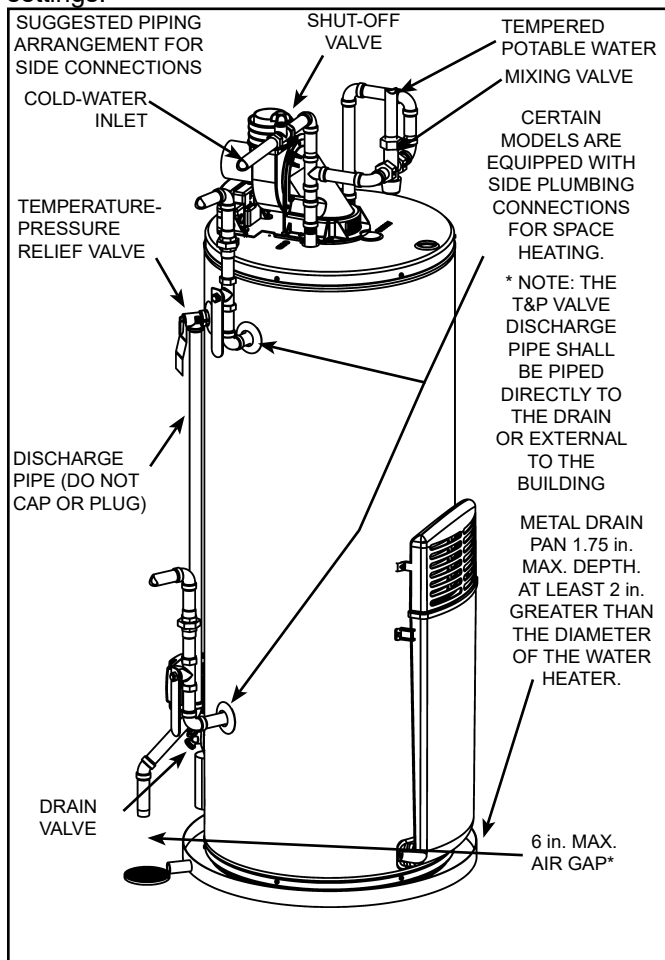
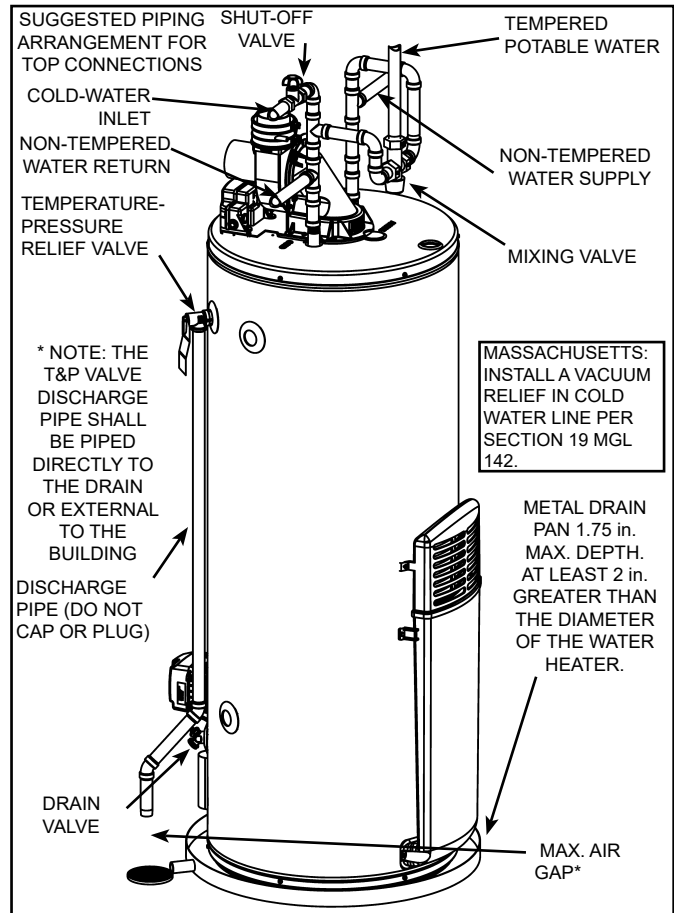

Figure 8.
Figure 9.
Models equipped with Combo Heating capabilities are shipped with the two side plumbing taps **OPEN** (item 8 and item 13 in Figure 1 and see also Figure 8). If the heater is to be operated without using the side taps these openings **must be plugged** with the two pipe plugs supplied with the heaters.
In addition to using lowest possible temperature setting that satisfies demand of application, Thermostatic Mixing Valves (temperature reducing valves) should be installed at the water heater (see Figure 8 & Figure 9) or at each point-of-use to further reduce system water temperature. Mixing valves are available at plumbing supply stores. Consult a Qualified Installer or Service Agency. Follow mixing valve manufacturer's instructions for installation of the valves. Before changing the factory setting on the thermostat, read the "Operating The Temperature Control System" section in this manual.